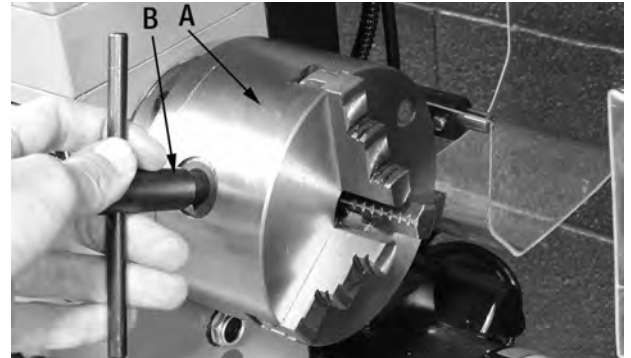

FIGURE 10
1. To open or close the jaws of the chuck (A) Fig.10, place the chuck key (B) into the chuck as shown. Turn the chuck key clockwise to tighten the jaws, and counterclockwise to open the jaws.
2. First, remove all 3 jaws from the chuck. This can be done by inserting chuck key (B) Fig.10 into chuck and turning it counterclockwise. Each jaw will move towards the edge of the chuck, once they stop moving they can be removed by hand.